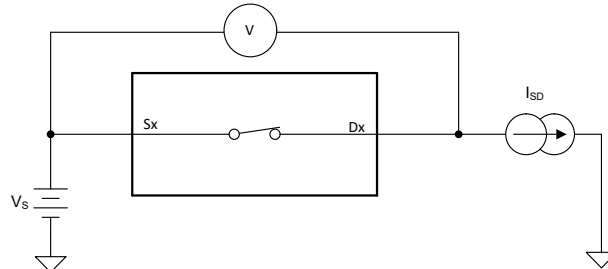

Figure 6-1. On-Resistance Measurement Setup
The on-resistance of a device is the ohmic resistance between the source (Sx) and drain (D) pins of the device. The on-resistance varies with input voltage and supply voltage. The symbol R_{ON} is used to denote on-resistance. Figure 6-1 shows the measurement setup used to measure R_{ON} . Voltage (V) and current (I_{SD}) are measured using this setup, and R_{ON} is computed with $R_{ON} = V / I_{SD}$.